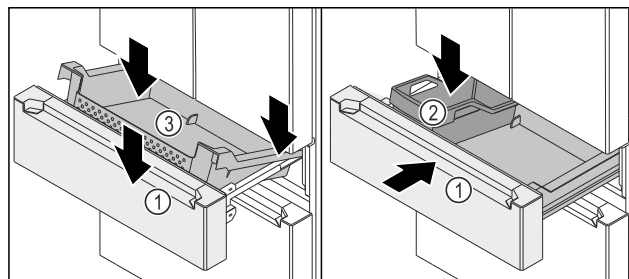

Fig. 151
- ☐ Telescopic unit Fig. 151 (1) is pulled out.
- Place the container Fig. 151 (3) at the rear on the rails on the right and left.
- Lower the front of the container Fig. 151 (3) so that the container Fig. 151 (3) encloses the rails on the right and left.
- Insert the FlexBox Fig. 151 (2).
- Push in the telescopic unit Fig. 151 (1).